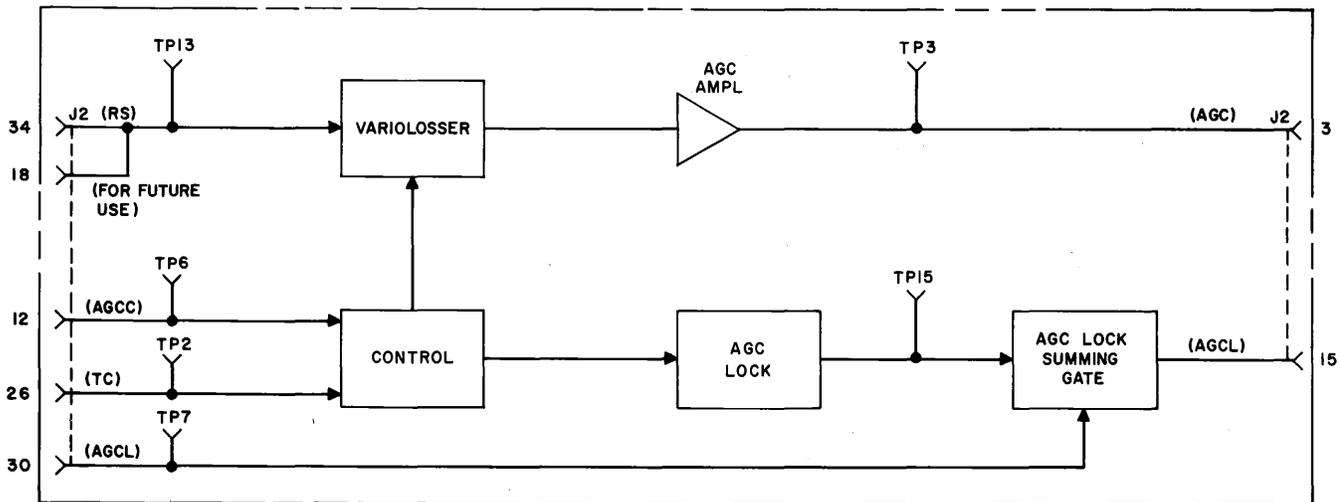

Fig. 8—Automatic Gain Control—Block Diagram
3.40 The AGC circuit (Fig. 8) consists of a variable loss network (varioloesser) and an amplifier in the received data signal path with a control circuit and AGC lock circuit in the feedback loop. The AGC circuit works in conjunction with the receiver on a closed-loop basis and regulates the peak signal swing at the receiver input. The receiver is basically a dc restorer followed by a slicer circuit. The AGC monitors the dc restorer output and regulates the magnitude of the signal transitions at the receiver input. Due to the nature of a restored polar data signal with which this circuit is designed to work, the AGC output cannot be fed back directly to the control circuit. Instead, the feedback is taken from the output of the summing amplifier in the receiver.